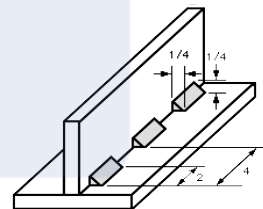

Figure 6
33. indicate a welding symbol on the design welded in Figure 6 below showing that welding is done at the arrow side